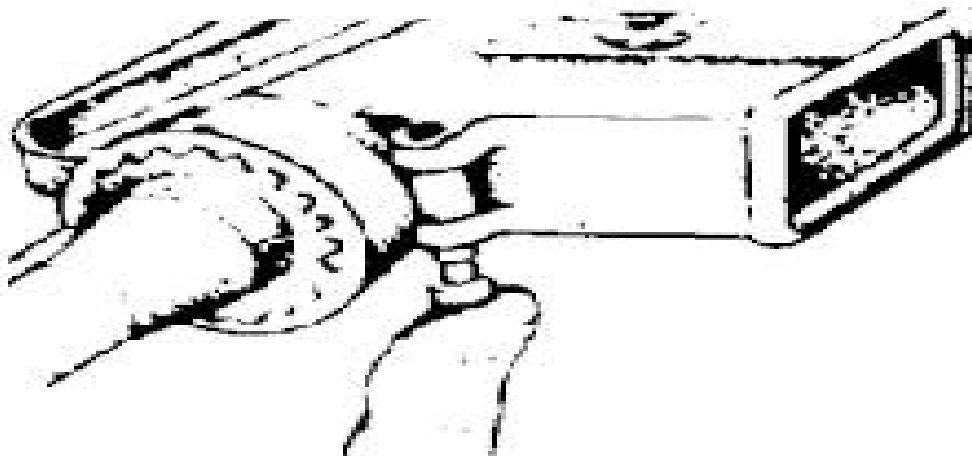

Figure E-36. Engaging the receiver pivot pin.
m. Engage the receiver pivot pin (figure E-36).